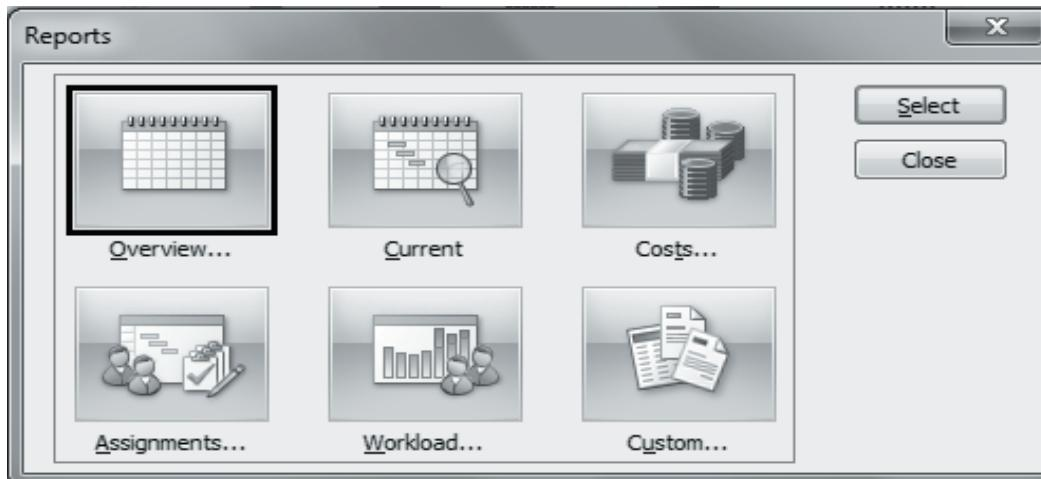

Figure 7.13: Reports Dialog Box
1. On the **Project** tab, click **Reports** on the **Ribbon** to display **Report** dialog box as shown in figure 7.13.